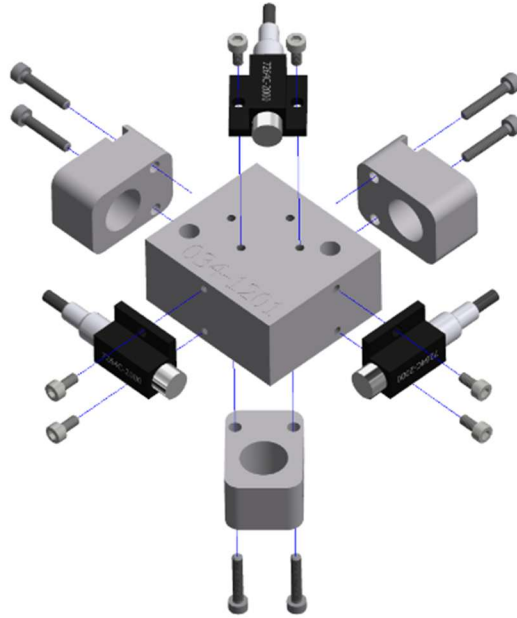

Figure 10-23. Remove the Accelerometers and ARSs from the mount
10.2.19 Remove the Accelerometers from the mount (034-120) by removing two M1.4 X 0.3 X 3 LG. SHCS per accel (Figure 10-23). Remove the ARSs from the mount by removing two M1.4 X 0.3 X 8 LG. SHCS per ARS (Figure 10-23).